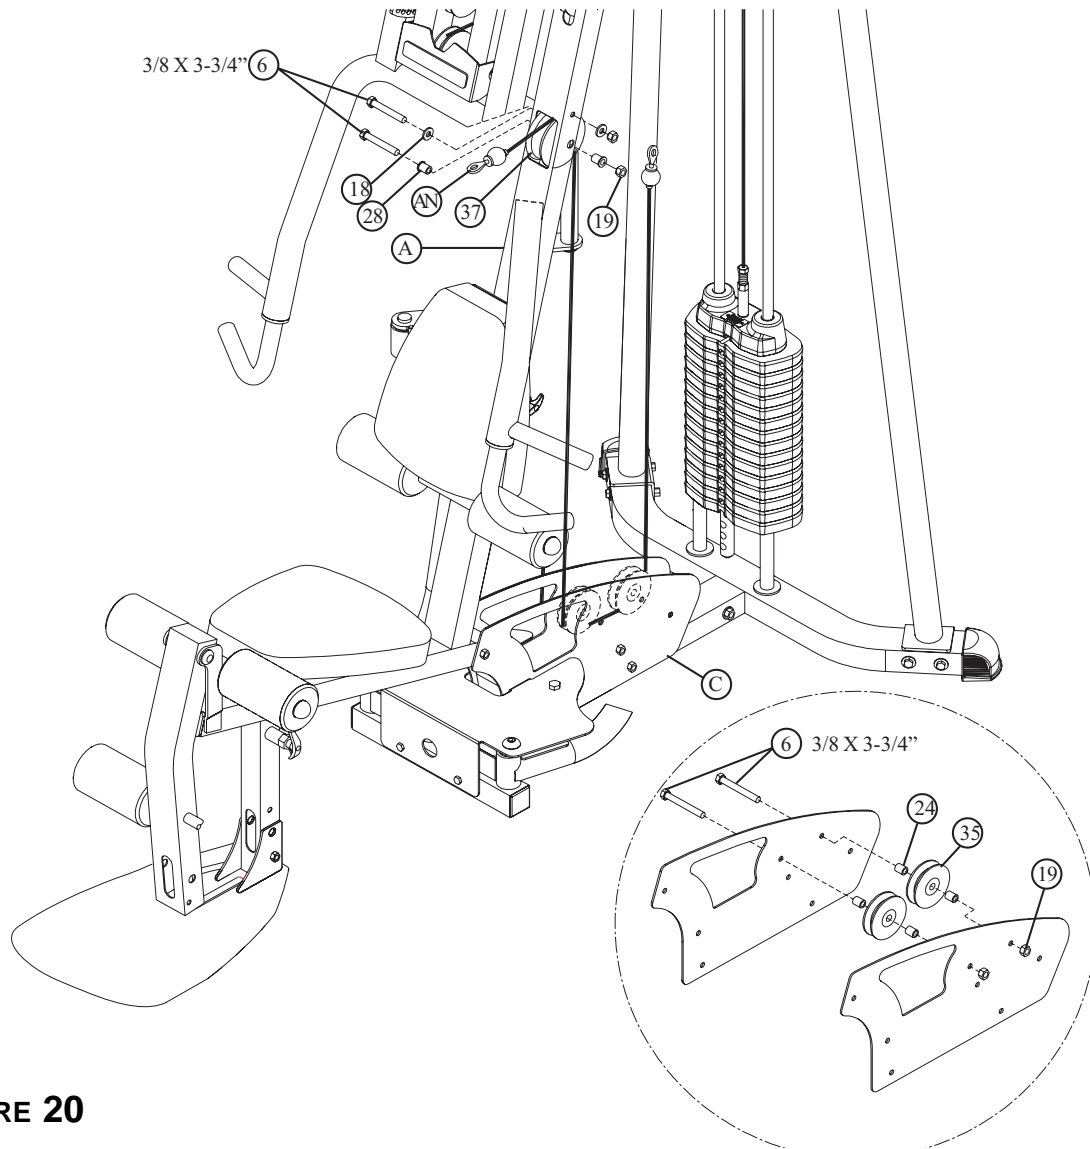

**FIGURE 19**
- Screw the threaded end of the GUIDE CABLE (AO) into the end of the FLOATING PULLEY BRACKET (Z). Secure the CABLE GUIDE (23) in place with the JAM NUT on the GUIDE CABLE. See FIGURE 19.
- Route the GUIDE CABLE (AO) around one 3-1/2" PULLEY (35) and assemble the PULLEY to the FLOATING PULLEY PLATES (AB) using one 3/8 X 1-3/4" BOLT (11) and one 3/8" SILVER LOCK NUT (19). See FIGURE 19. **(Note: Make sure the cable runs in the grooves of the pulleys.)**
- Route the hook end of the GUIDE CABLE (AO) thru the CABLE GUIDE (23) then the GUIDE CABLE (AO) to the BASE using one 3/8 X 3-3/4" BOLT (6), one 3/8" WASHER (18) and one 3/8" SILVER LOCK NUT (19) as shown in FIGURE 19.